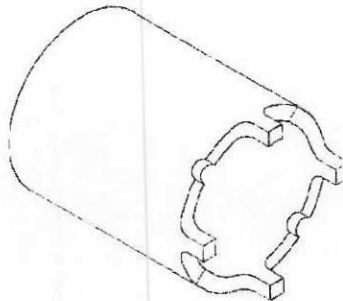

Figure 2. 4-Lug socket.
Jack-stands	4-Lug Socket for Dana 44 (Fig 2)*
4. Using hub spindle nut socket (Figure 2) and torque wrench, torque nut to 50 ft-lb. Rotate wheel back and forth while tightening the nut. This helps seat the bearings.